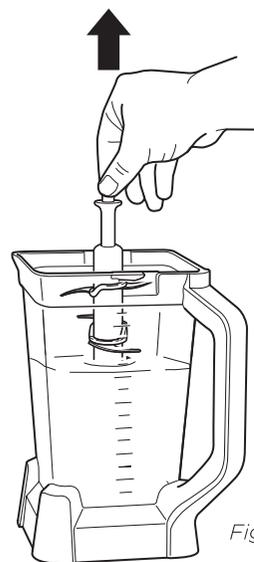

Fig. 3
**16b** For thicker mixtures that cannot be emptied through the pour spout, remove the lid and stacked blade assembly before pouring. To remove the lid, press the LID RELEASE button and lift the handle (**Fig. 2**). To remove the blade assembly, carefully grasp it by the top of the shaft (**Fig. 3**). The pitcher can then be emptied (**Fig. 4**).